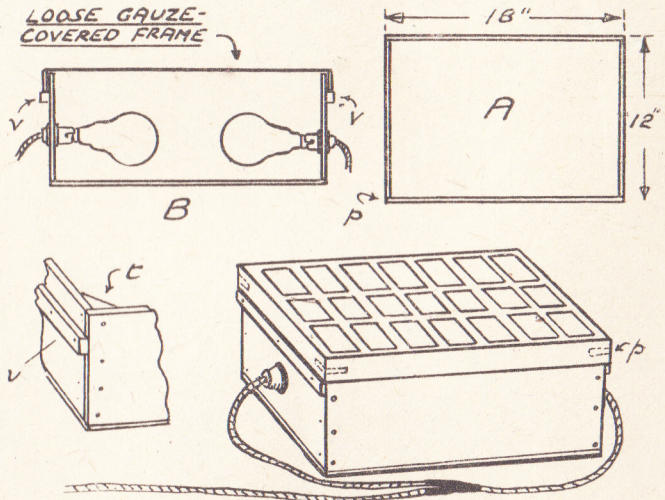

Fig. 2—An electric lamp container
excellent thing to have a heat drier, the heat being supplied by two electric bulbs encased in a container as Fig. 2. First required is the gauze-covered frame (A) which in general is the same as the one just described. In this case, however, a convenient size is 12 ins. by 18 ins., which means that it will hold three rows of seven each of $3\frac{1}{4}$ in. by $2\frac{1}{4}$ in. prints at any one time.